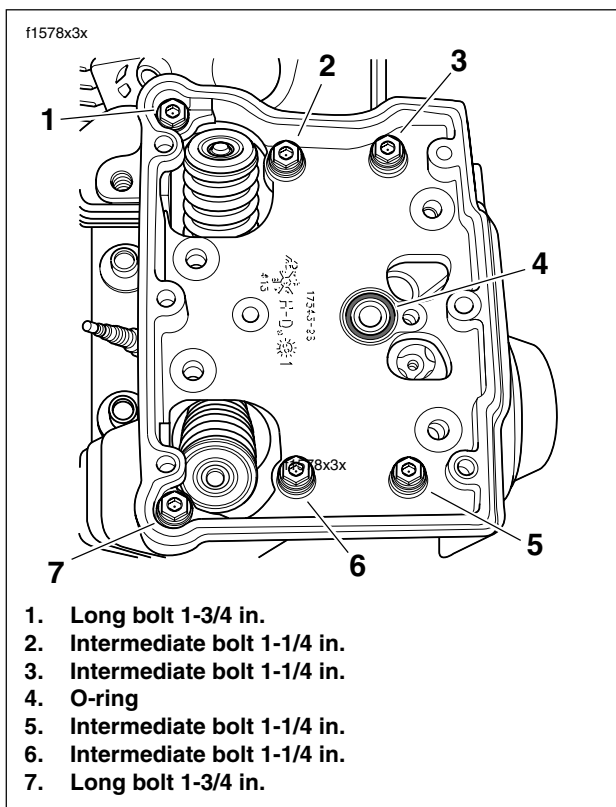

Figure 3-3. Rocker Housing Bolt Lengths
6. See Figure 3-3. Start the rocker housing bolts, two long bolts on the left side of the engine, four intermediate bolts in the interior.